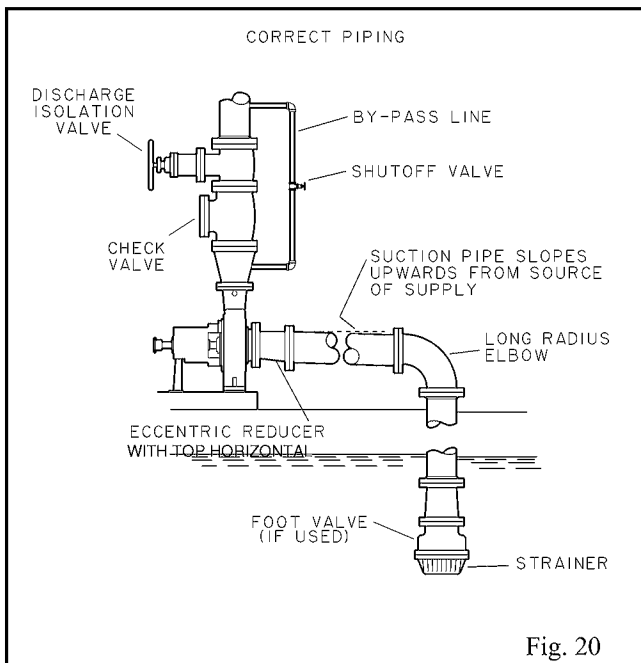

Fig. 20
3. Reducers should be eccentric at the pump suction flange with sloping side down and horizontal side at the top (Figs. 20, 21, 22).